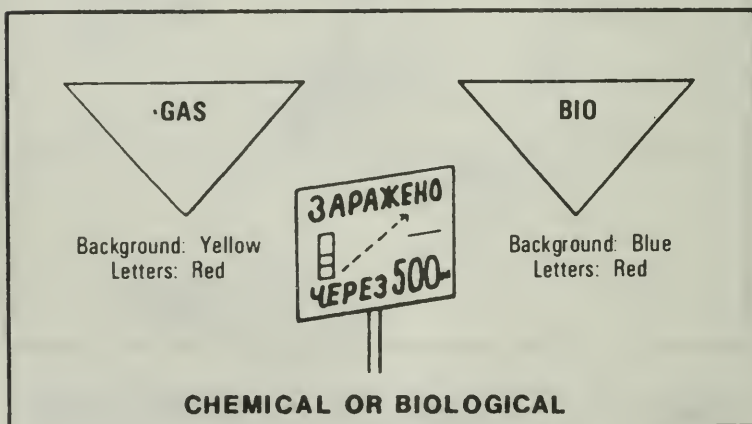

Figure 279. CB hazard markers.
9. If you observe any CB hazard markers or other CB hazard indicator (Figure 279), notify your supervisor.